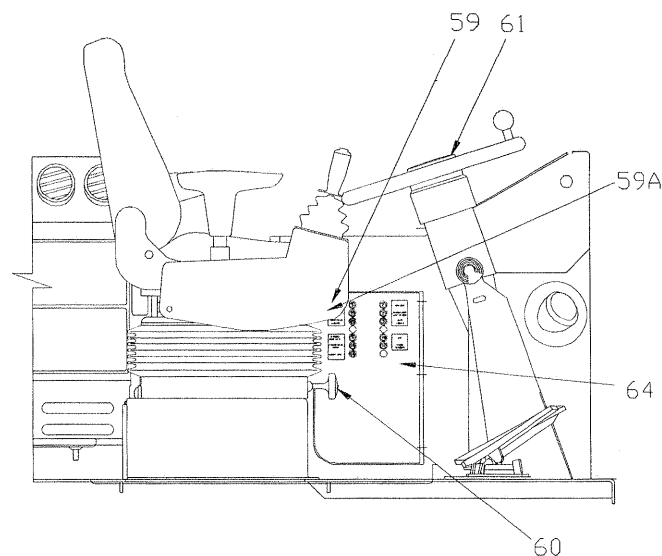

Fig. 3-16 Seat Adjustment Controls
See Fig. 3-16 not shown.
See Fig. 3-16
**59A. Seat and Controls Forward and Aft** See Fig.3-16
**60. Seat Weight Adjustment** See Fig.3-16
**61. Horn in Steering Column** See Fig. 3-16.